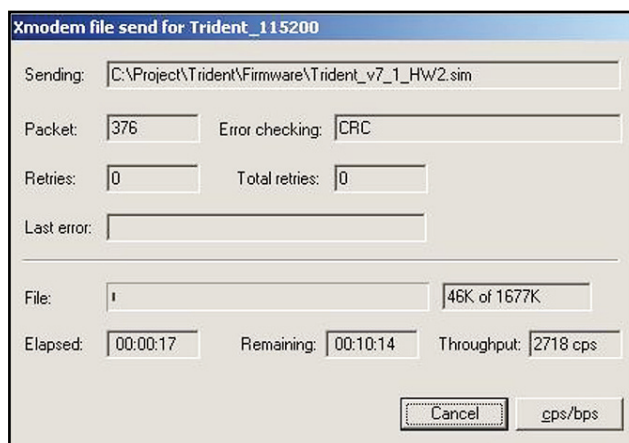
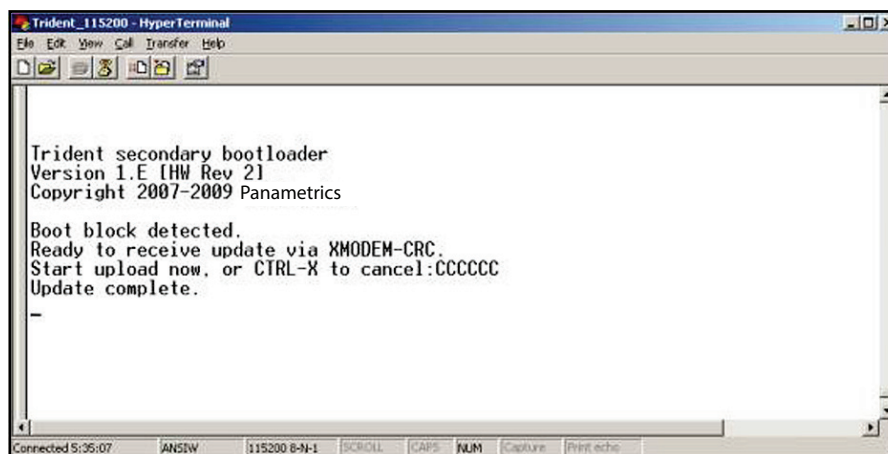

Figure 50: Sentinel LCT4 transfer status window
Figure 51: PC transfer status window
4. In Hyperterminal, select Transfer, and then Send File. (The protocol should be Xmodem.) Use Browse to locate the file, which will have a .cod extension. Double click on this file and click the Send button. The screens on the Sentinel LCT4 (*Figure 50* below) and on Hyperterminal (*Figure 51* below) should both display the status of the transfer.